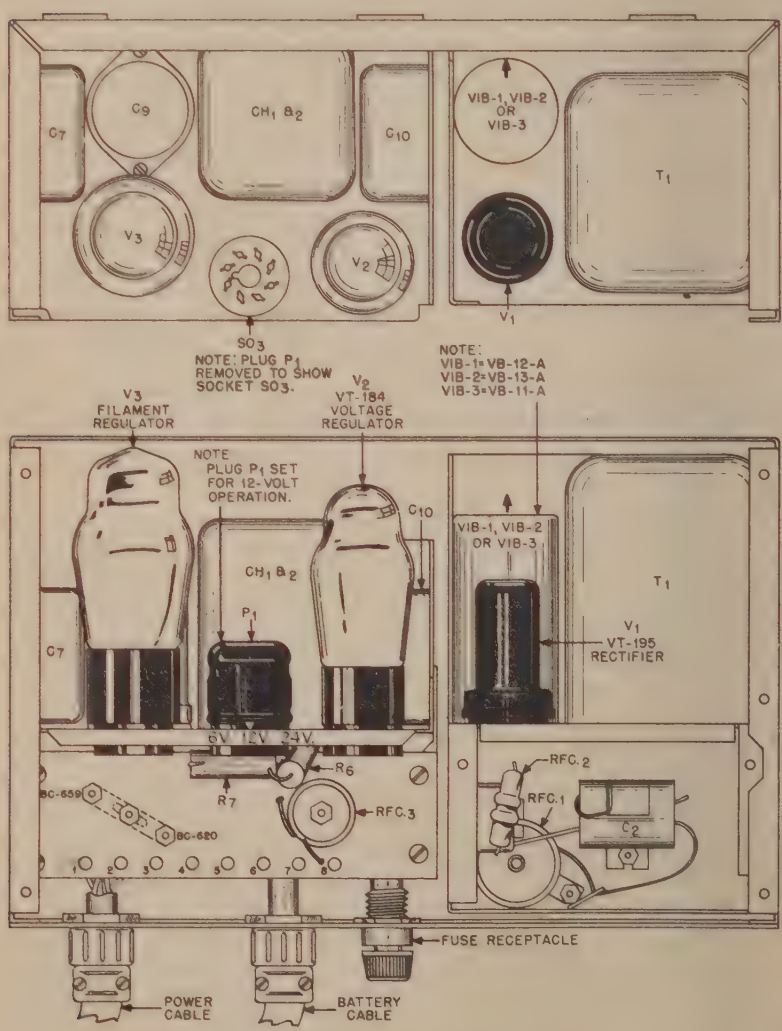

FIGURE 27. Power Supply Unit PE-120-A, Parts Location Detail
- a. Connect link to terminal marked "BC-659." (See Figure 27.)